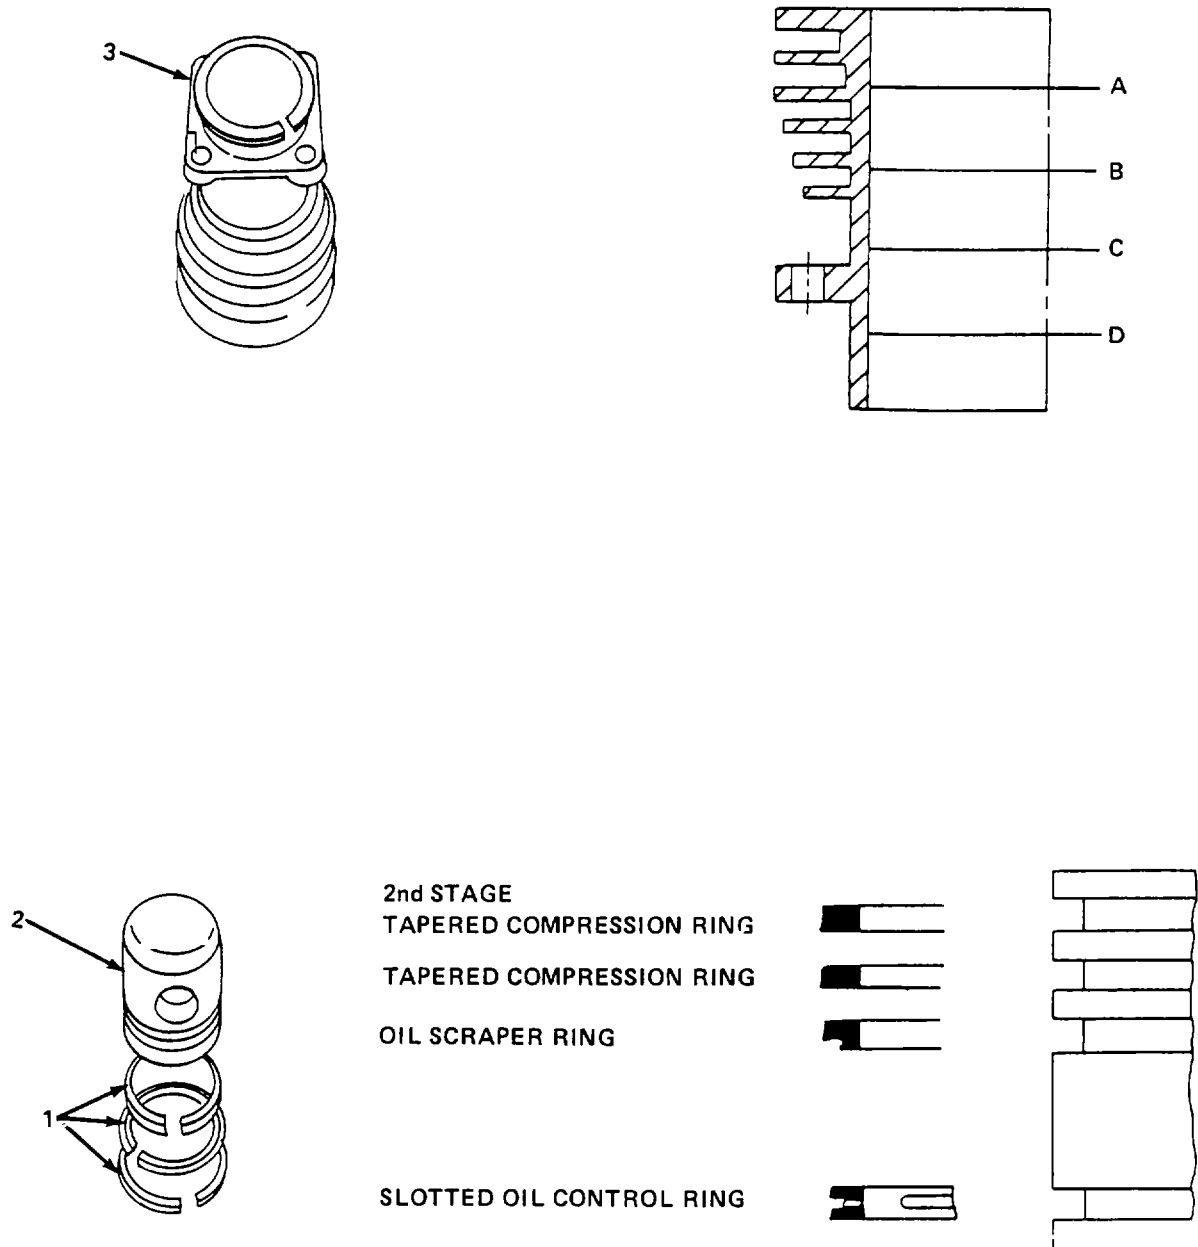

Figure 6-4. 2nd Stage Cylinder and Piston, Repair.
- (6) Remove piston pin (9) from piston (7) and connecting rod (10).
- (7) Remove piston (7).
- (8) Position piston (7) over connecting rod (10) and install piston pin (9).
- (9) Using circlip pliers, install two snap rings (8).
- (10) Install four studs (6) on crankcase (4).
- (11) Install gasket (5) on crankcase (4).
- (12) Apply lubricating oil to cylinder walls.
- (13) Position cylinder (3) on piston (7) using piston ring clamp.
- (14) Slide cylinder (3) down until it seats on gasket (5) on upper crankcase (4).
- (15) Install four washers (2) and nuts (1).
b. Repair. (figure 6-4)
- (1) Remove 2nd stage cylinder and piston (para. a. above).